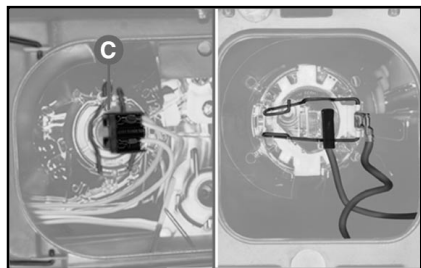

fig. 14
3) Pull side tabs of the fixing clips **C**-fig. 14; remove the bulb holder and the relevant bulb.